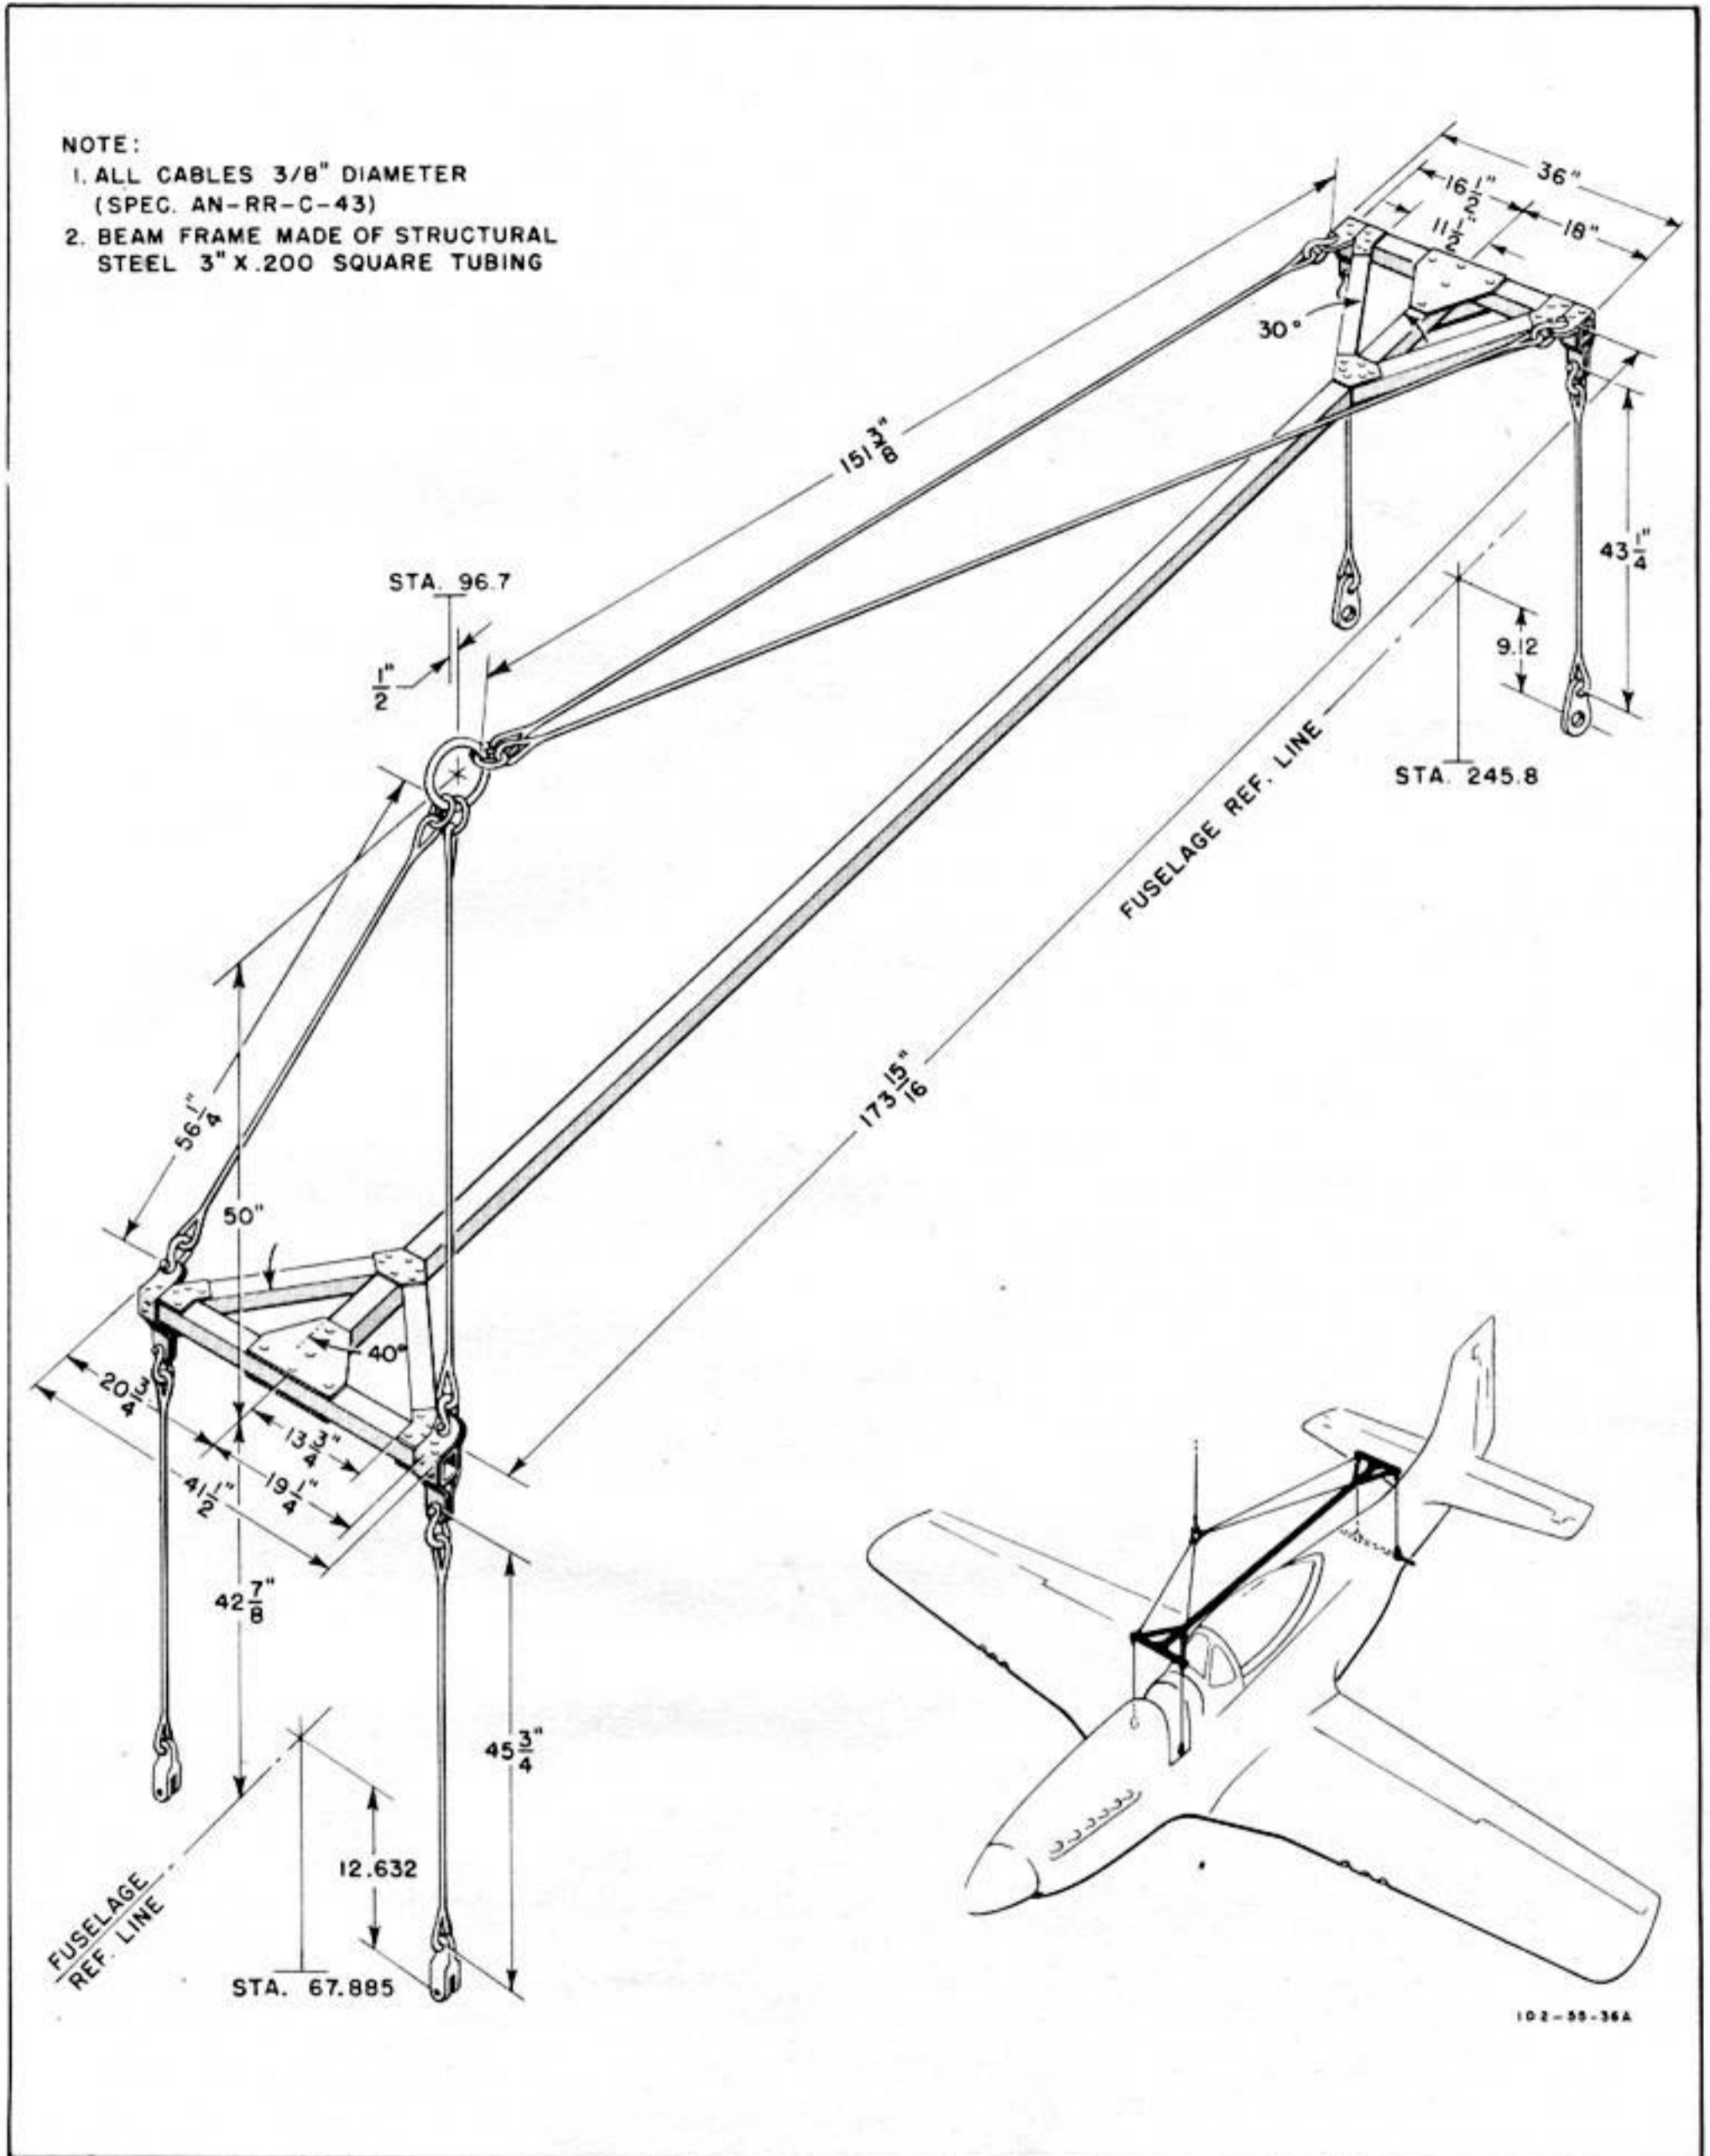
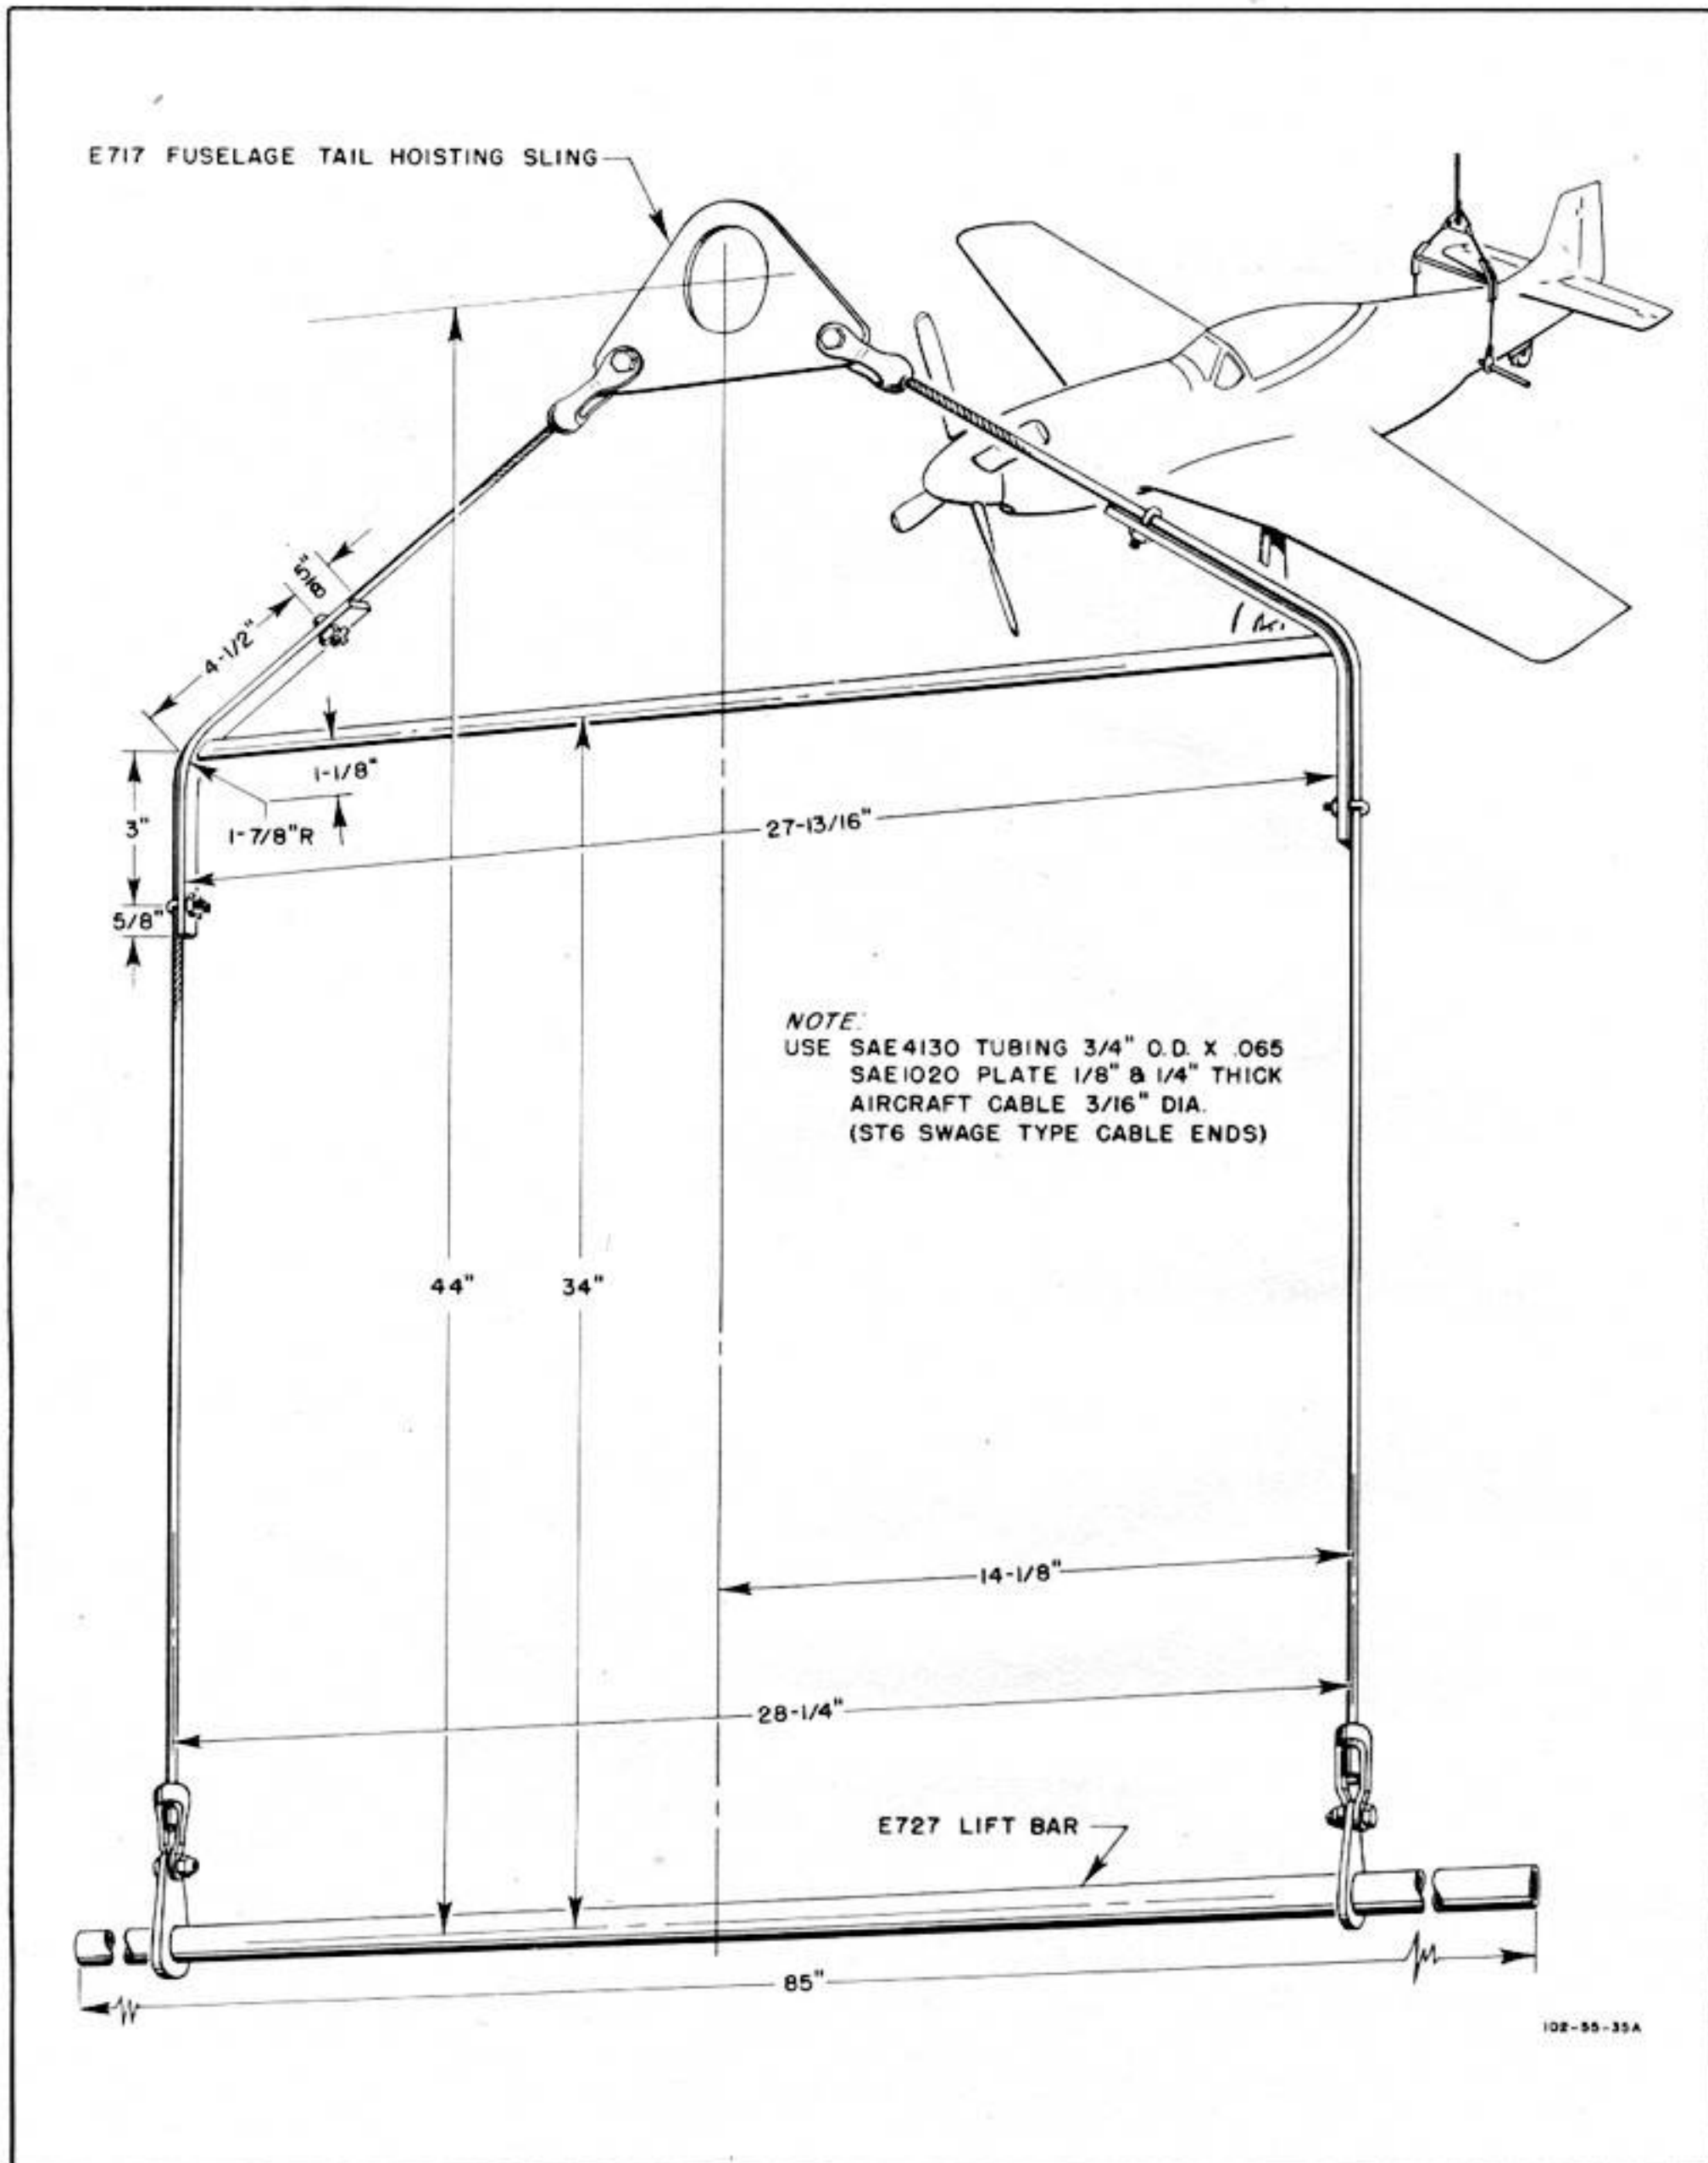

Figure 52—Complete Airplane Hoisting Sling
Figure 53—Fuselage Tail Hoisting Sling and Lift Tube Bar
the engine mount constitute the hoisting facilities on this airplane. (*See figures 52 through 57.*) The wing hoisting fittings are stowed in the tool kit furnished with the airplane. (*See figure 76.*) When not in use, the wing hoisting lugs are fitted with flush plugs. The upper aft engine cowling must be removed to gain access to the engine mount hoisting lugs.
(*a*) ONE-POINT LIFT.—The complete airplane can be hoisted with a single hoisting cable if an E750 hoisting sling (*figure 52*) is used. The sling fastens to the engine mount hoisting lugs, and to each end of an E727 lift-tube bar. (*See figure 53.*)
(b) THREE-POINT LIFT.—The complete airplane can be hoisted by means of a hoisting cable connected to an E717 hoisting sling (figure 53), and two hoisting cables connected to the wing hoisting fittings. Since the center of gravity of the airplane is located just aft of the wing hoisting lugs, a 200-pound weight should be suspended from the fuselage lift tube before the engine is hoisted.
(2) HOISTING TAIL OF AIRPLANE.—The tail of the airplane, complete with empennage, can be hoisted with an E717 hoisting sling. (See figure 53.) The airplane weighs approximately 1600 pounds at the lift tube.
(a) FUSELAGE WITHOUT ENGINE.—The fuselage without the engine can be hoisted with a single hoisting cable if an E718 hoisting sling (figure 54) is used. The sling fastens to a bar bolted to the upper engine mount attachment lugs, and to each end of an E727 lift-tube bar. (See figure 53.)
(b) FUSELAGE WITH ENGINE.—The fuselage with the engine can be hoisted with a single hoisting cable if an E750 hoisting sling (figure 52) is used. The sling fastens to the engine mount hoisting lugs, and to each end of an E727 lift-tube bar. (See figure 53.)